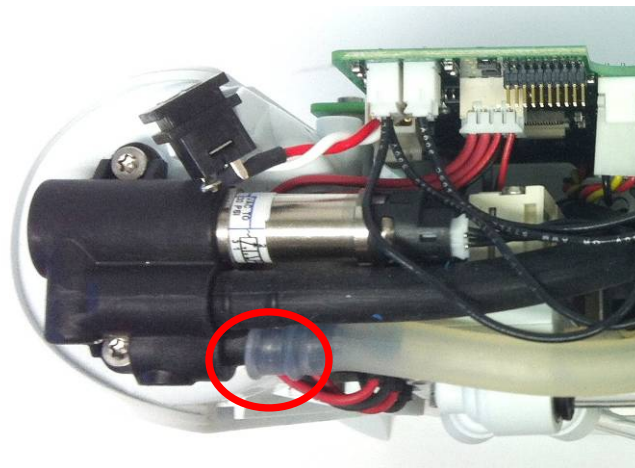

Figure 9: Inlet T Tube and feed waste manifold
1. Remove the upper feed tube from both feed waste manifolds using a small flathead screw driver, if necessary (Figure 9). *Be careful not to damage the sealing surface of the manifold barb when removing the tube.*